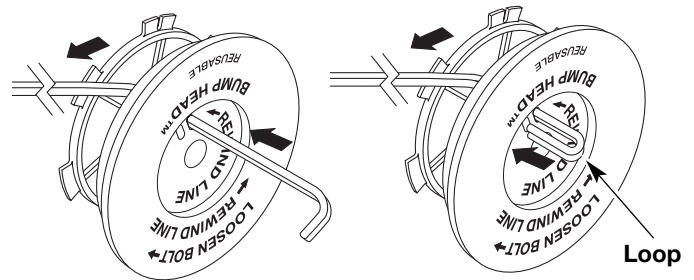

Fig. 29
- Take approximately 10 feet (3 m) of new trimming line. Insert one end of the line through one of the two holes in the inner reel (Fig. 29). Pull the line through the inner reel until only about 4 inches is left out.
- Insert the end of the line into the open hole in the inner reel and pull the line tight to make the loop as small as possible (Fig. 29).